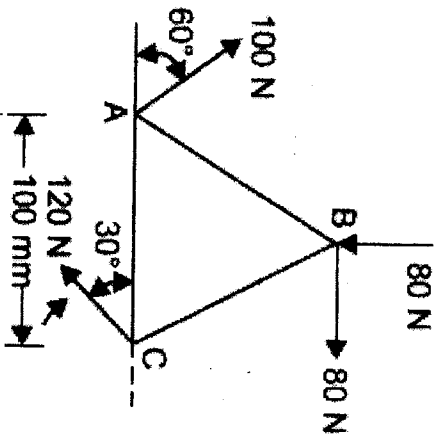

Figure 2
- 4. Find the magnitude, direction and position of resultant shown in Figure 2, acting on a lamina of equilateral triangular shape.